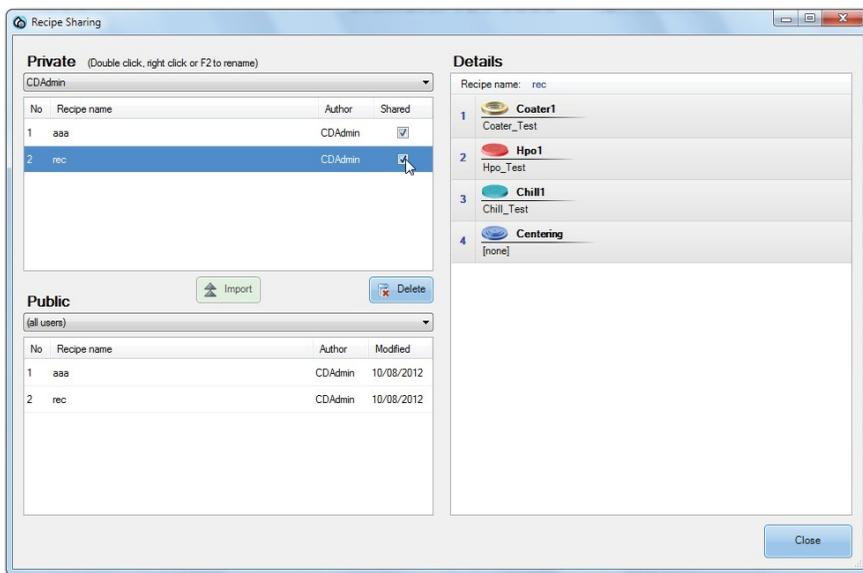

FIGURE 3-35: Selecting recipes to share
- In the Private pane, click the down arrow and select a user account whose recipes you want to share, and check the recipes to be shared. The recipes will be added to the Public pane below as you check them. See Figure 3-35.